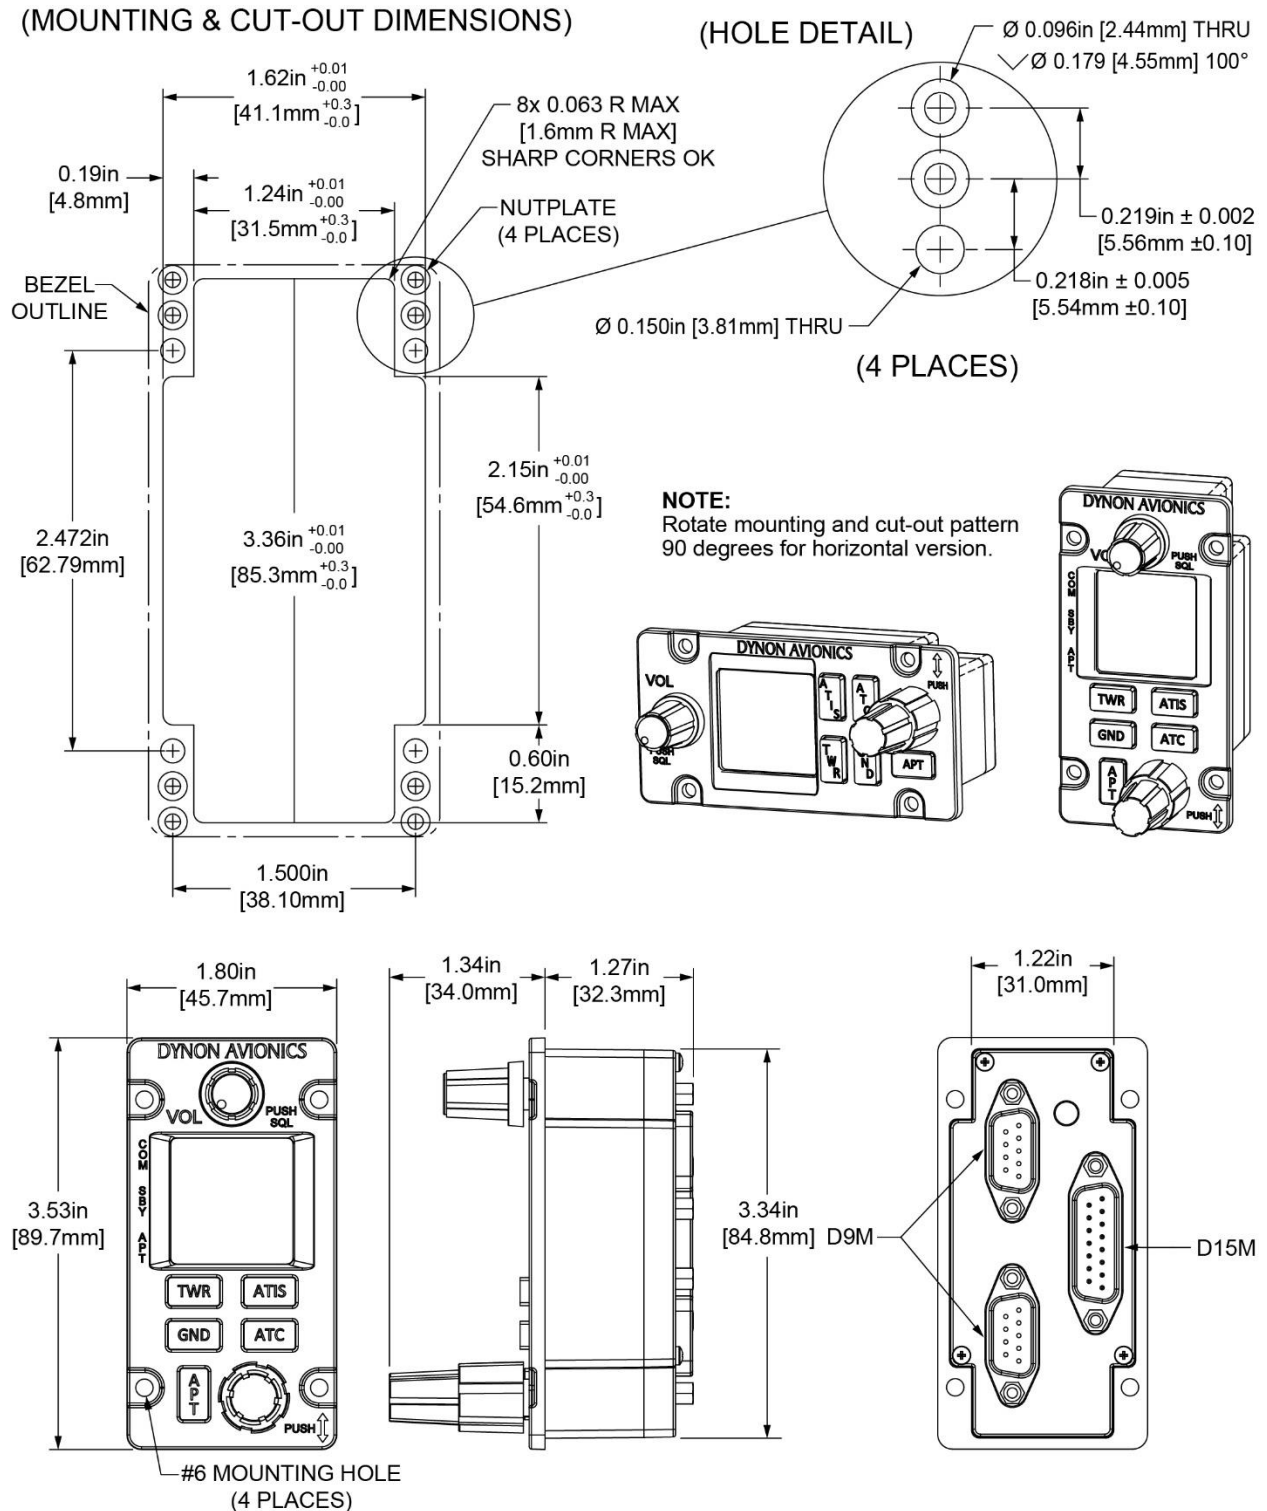

Figure 199 – SV-COM-PANEL Panel Cut-out and Mounting Dimensions
- Panel Cutout: (irregular – see Figure 199)